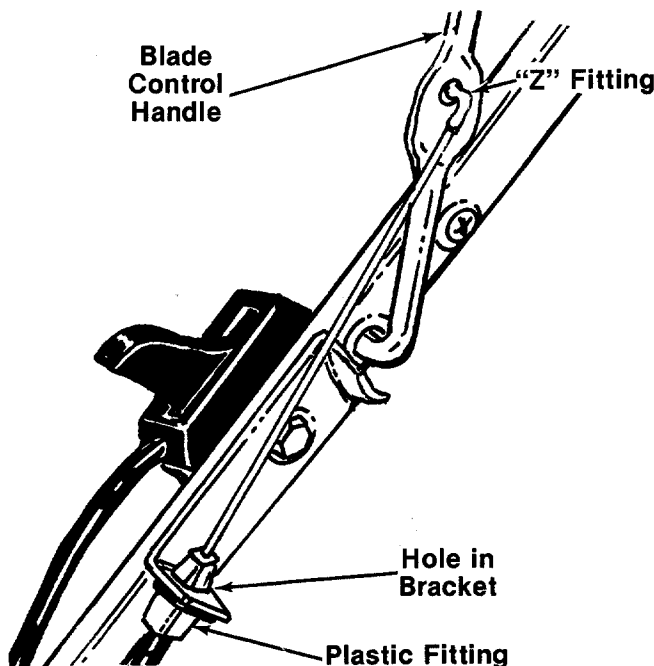

FIGURE 5.
- Route the brake cable under the lower handle. Place the end of the brake cable into the hole in the bracket as shown in figure 5. Be careful not to bend or kink the cable. Snap the plastic fitting on the end of the cable into the hole in the bracket.
Hook the "Z" end of the brake cable into the hole in the blade control handle. See figure 5.